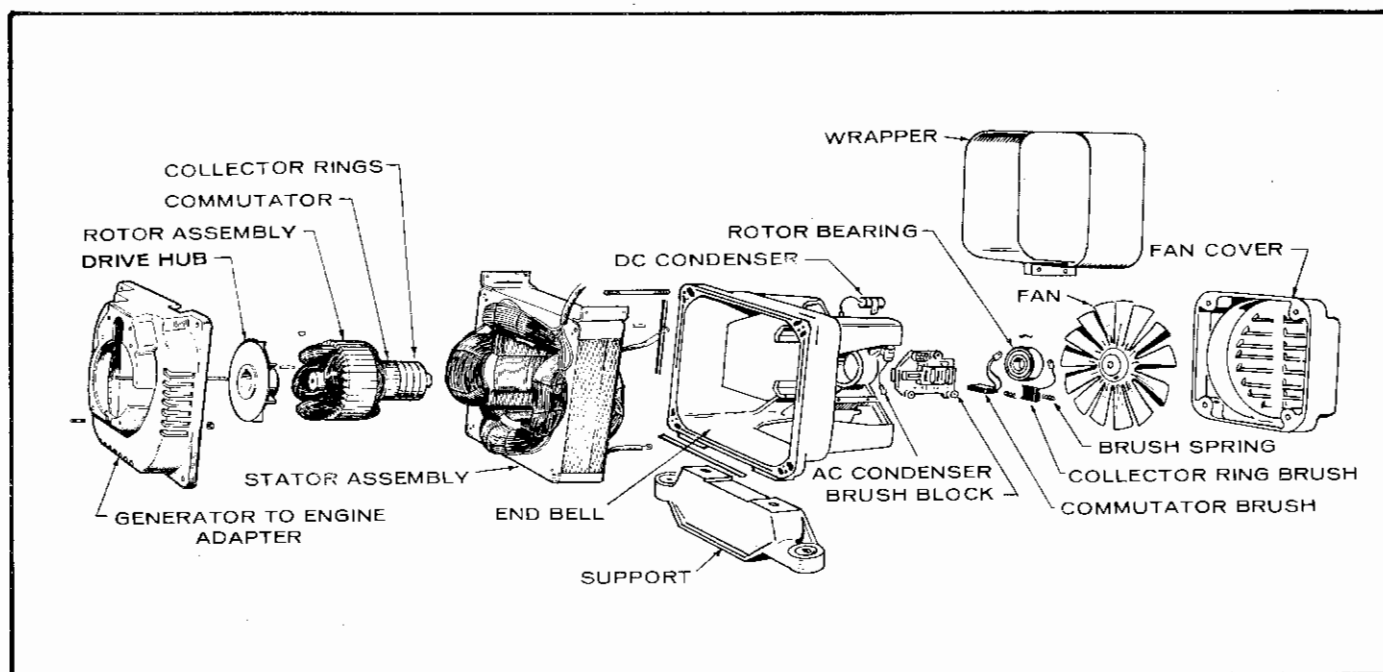

FIGURE 40. GENERATOR ASSEMBLY
The procedure is mostly self-evident (see Figure 40). Remove the band and end cover. Lift all brushes using alligator clips (12) or in an emergency the leads may be bent over the sides of the holder.